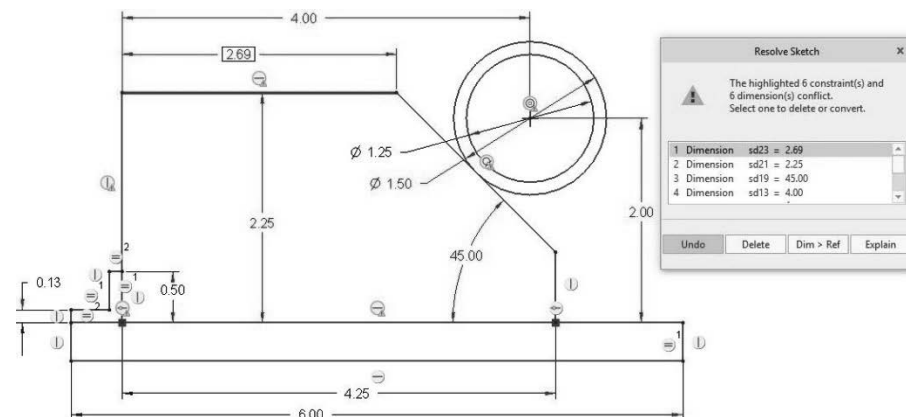

Figure 3-56 Resolve Sketch
- Step 16:** *Select* the horizontal line at the top of the jig with the LMB. Move upward a bit, then press the MMB to locate the dimension. Note that a “Resolve Sketch” window appears. See Figure 3-56. This appears because the sketch as defined is completely defined and we are trying to add another dimension. Several constraints and dimensions may need to be modified in order to add this dimension. A reference dimension is a dimension shown on a sketch that is not necessary to define the sketch. When the window appears, be sure the new dimension is highlighted, then *pick* the **Dim>Ref** button. *Pick OK*.